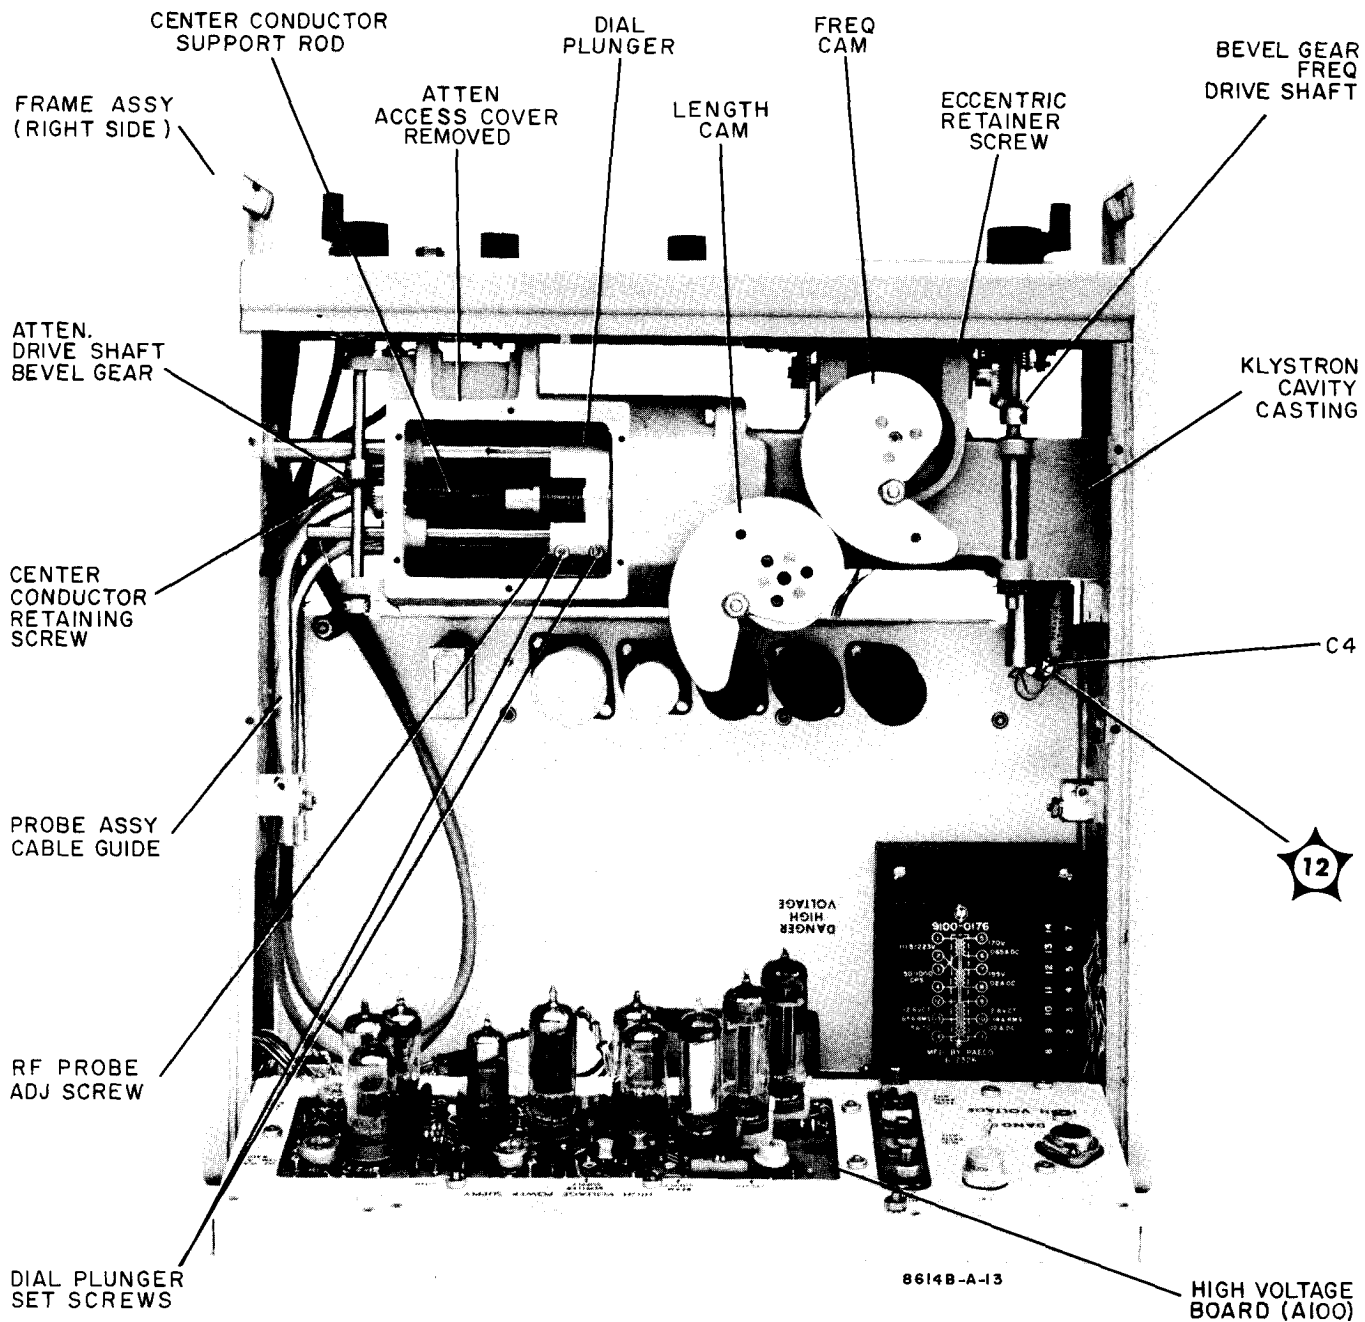

Figure 5-8. Model 8614B Top View, Cover Removed
- b. Remove top cover and attenuator access cover (see Figure 5-8).
- e. Remove retaining screw from defective probe in klystron cavity casting and remove from casting (see Figure 5-8).
- c. Turn FREQUENCY (MC) to approximately the middle of the frequency band.
- d. Orient Length Cam to Frequency Cam as shown in Figure 5-8.
a. Connect a Clip-On Milliammeter, such as , Model 428A, to wire on center feed-through capacitor, C4 (wht/orn/vio wire, see Figure 5-8).
b. Connect crystal detector/oscilloscope combination to VARIABLE RF OUTPUT and set FREQUENCY (MC) to 1650 MC (3050 MC for 8616B).
f. If clamping action referred to in step c occurs before VARIABLE RF OUTPUT begins to decrease and before beam current exceeds 28 ma, go to next procedure. If clamping action does not occur before VARIABLE RF OUTPUT begins to decrease or before beam current exceeds 28 ma, readjust R420 as in step d above. Using a DC Voltmeter, such as the Model 405B with a floating input, measure voltage difference between klystron cathode and control grid (see Figure 5-8). Replace CR404 with a zener diode whose breakdown voltage is as close to, but slightly less than, the measured voltage minus 0.6 volts (see Figure 5-4).
c. Refer to graph, Figure 5-10. The horizontal axis represents the measured frequency change from step b, the vertical axis indicates the dial corrective setting. For example, if the difference between dial settings (step b) is 1354 Mc, the corrective setting for the dial as found on the graph is 990 Mc. To make correction, set frequency dial to 1000 Mc, loosen the two setscrews that clamp dial plunger to rack, hold dial plunger stationary, and set dial to 990 Mc. Tighten two setscrews (see Figure 5-8).
i. If frequency dial reading errors are greater than ± 5 Mc (± 10 Mc for 8616B), shifting the dial may bring all errors within specification. If shifting dial will not sufficiently correct errors, it may be necessary to shift position of center conductor support rod (see Figure 5-8). The center conductor is notched at end closest to right side of instrument and may be loosened and then adjusted "in" or "out" of klystron cavity. Notch or scratch center conductor rod so that original position may always be known. If overall frequency error was positive, adjust center conductor toward right side of instrument. If overall error was negative, adjust center conductor toward left side of instrument. When adjusting center conductor position, never change by more than about 20 thousandths of an inch at a time.